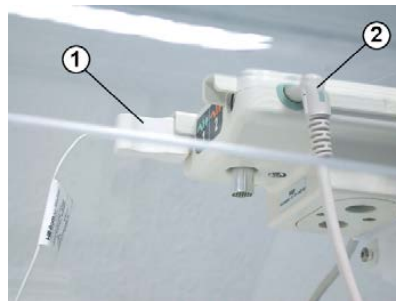

Fig. 62 Sensor module: Connectors for skin temperature sensor and scale
- 3 If necessary, disconnect the scale cable assembly from the sensor module assembly (Fig. 62/2).